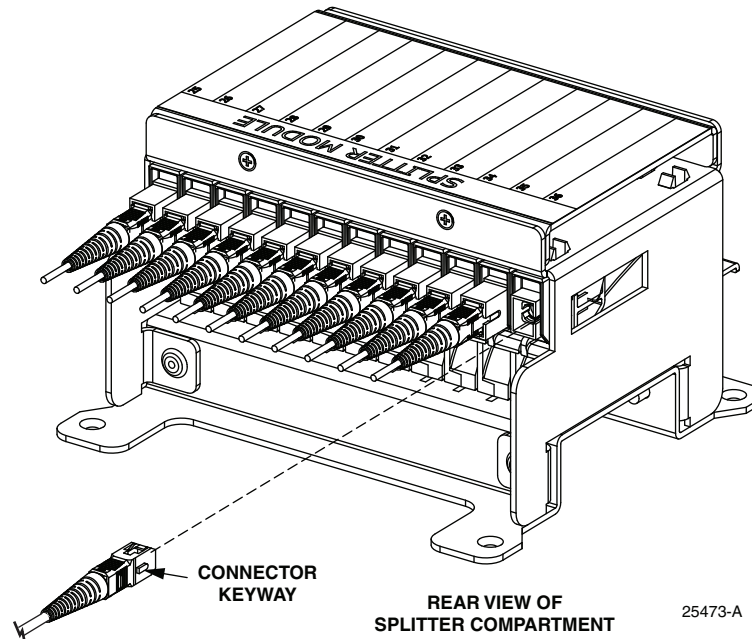

Figure 10. Feeder Cable Connector
4. Remove the corresponding feeder cable connector from the rear of the splitter compartment as shown in Figure 10.
3. Remove the feeder cable connector from the rear of the splitter compartment (see Figure 10).